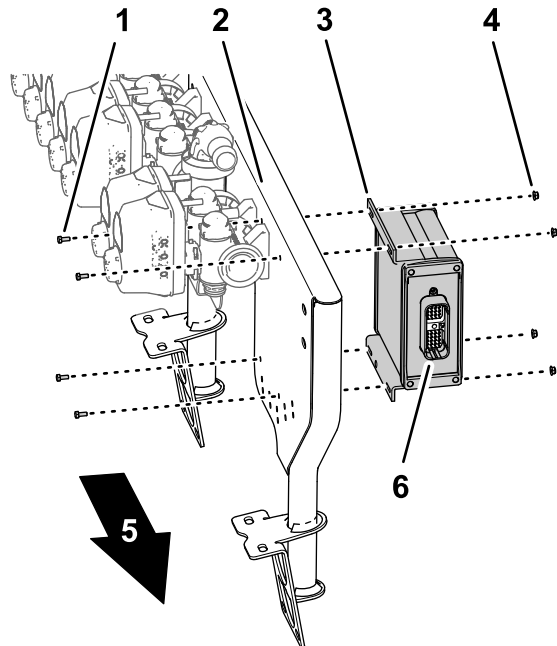

Figure 60
1. Align the sprayer controller the forward side of the valve mount with the 40-pin connector outward (Figure 60).
- Assemble the sprayer controller to the valve mount (Figure 60) with the 4 bolts (4 x 10 mm) and 4 flange locknuts (4 mm).